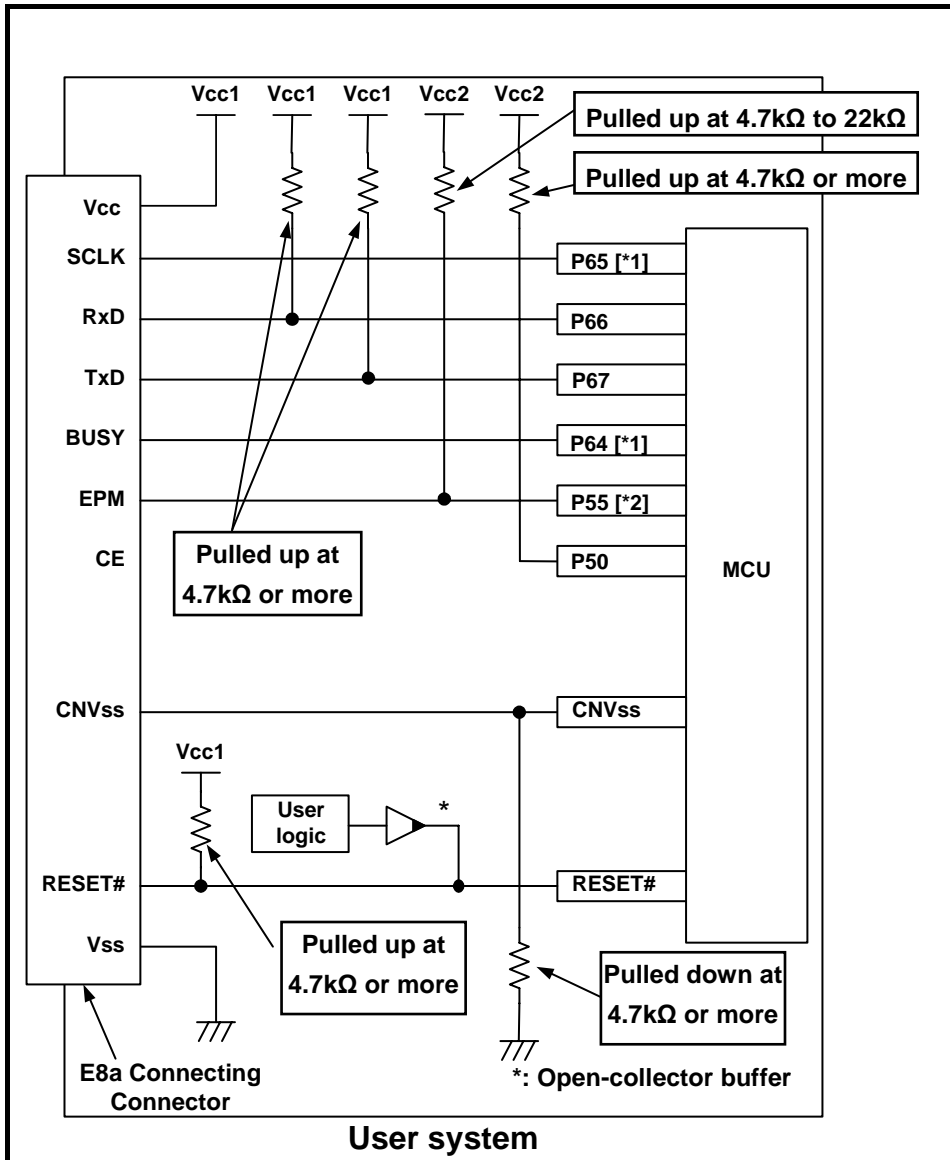

Figure 4.4 Example of an E8a Connection (Dual Power Supply and Memory Expansion Mode)
- Dual power supply and memory expansion mode: See Figure 4.4.